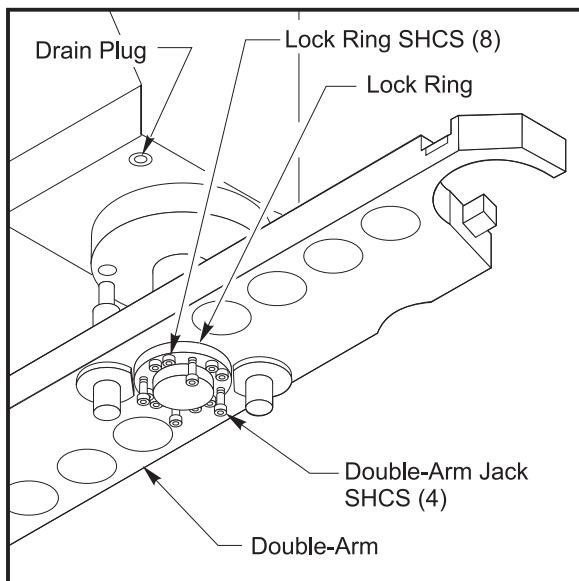

Figure 3-74 Removal of the Double Arm
2. Remove the 1/4"NPT plug near the cam box output shaft and drain the cam box oil. See Figure 3-74.